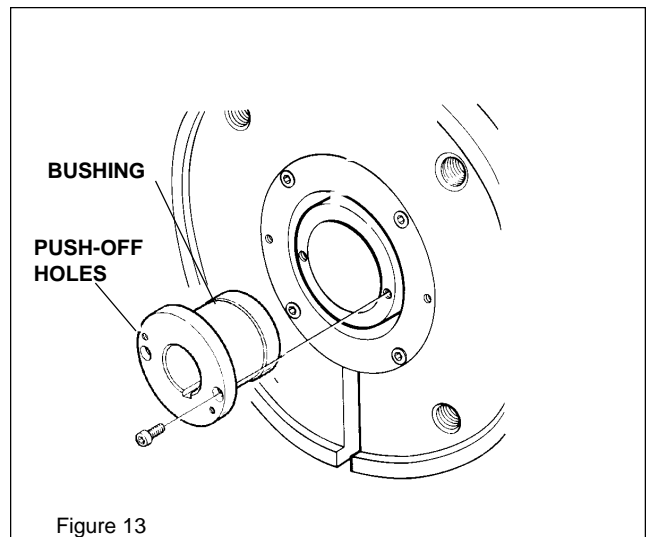

Figure 13
2. Thread the socket-head cap screws removed from bushing into the push-off holes provided and turn alternately to force bushing from pinion shaft. (Figure 13)